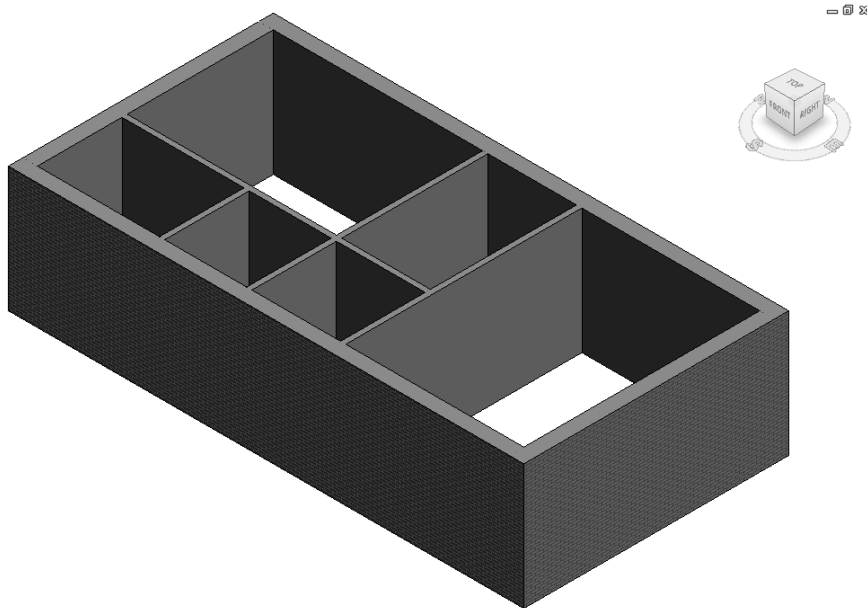

Figure 3-62 3D view of the Apartment 1 building model
8. Now, choose the **Visual Style** button from the **View Control Bar**; a flyout is displayed. Choose the **Shaded** option from this flyout; the 3D view is displayed with shading with edges visible, as shown in Figure 3-62.